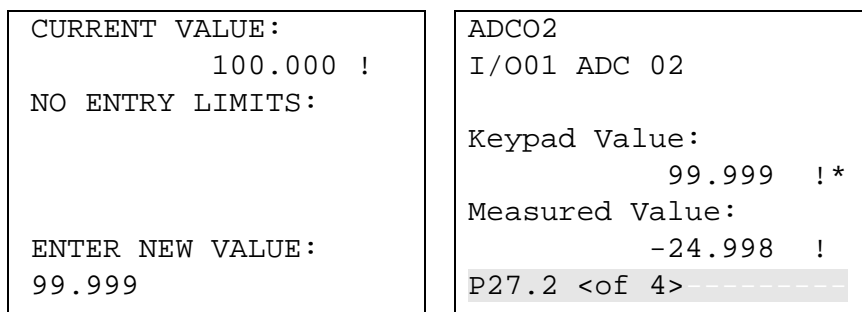

Figure 5-13. Changing a Display Value
3. Enter the new value (in this example, **99.999**). It appears on the display as shown in the left-hand screen of *Figure 5-13*.
4. Press Return. The S600+ accepts the new value and displays it as shown on the right-hand screen in *Figure 5-13*.